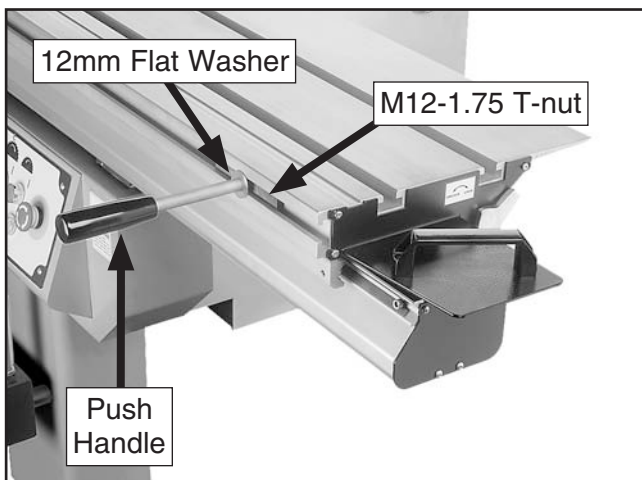

Figure 21. Sliding table push handle installed.
3. Install the push handle into the table, as shown in **Figure 21**, with a 12mm flat washer and M12-1.75 T-nut.